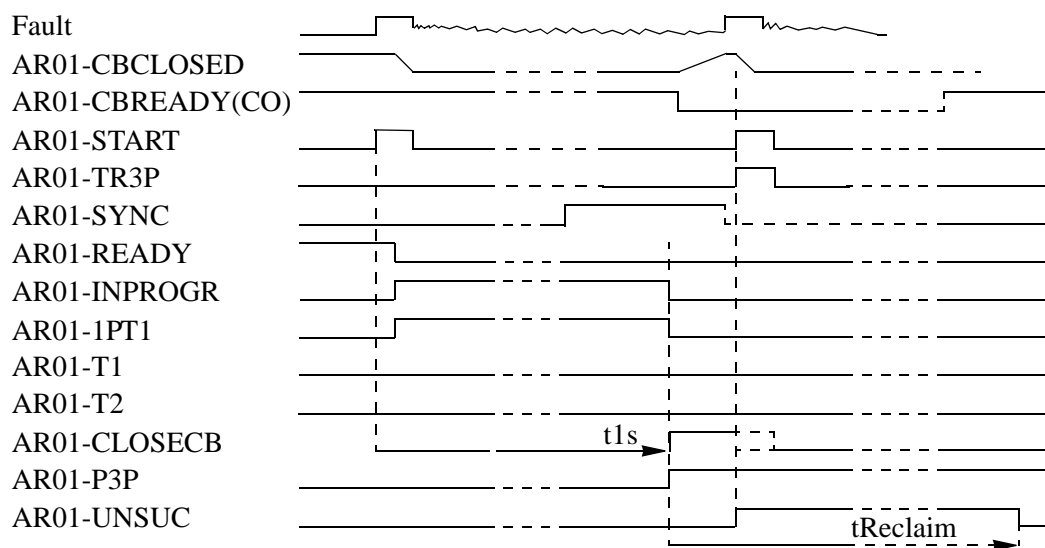

Figure 12: Permanent single-phase fault. Program 1/2/3ph, single-phase single-shot reclosing.
- 2.6 A few fault cases may be checked, for example, single-phase, two-phase and three-phase trips, transient, and permanent fault. The signal sequence diagrams in Figure 12: and 13 can be of guidance for the checking.